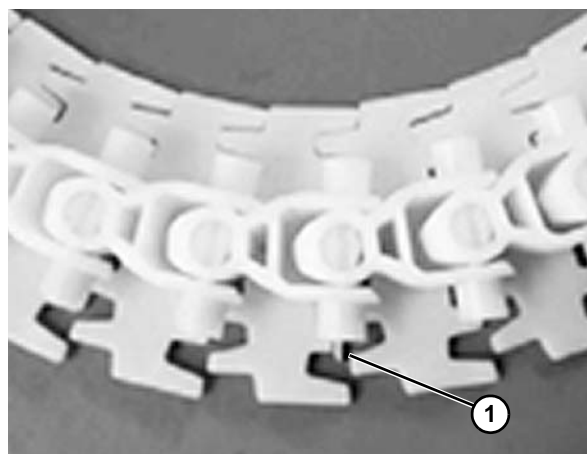

Figure 50
4. Check that the chain is flexible in the joint and that the pin does not stick out or go through the other side (**Figure 50, item 1**).